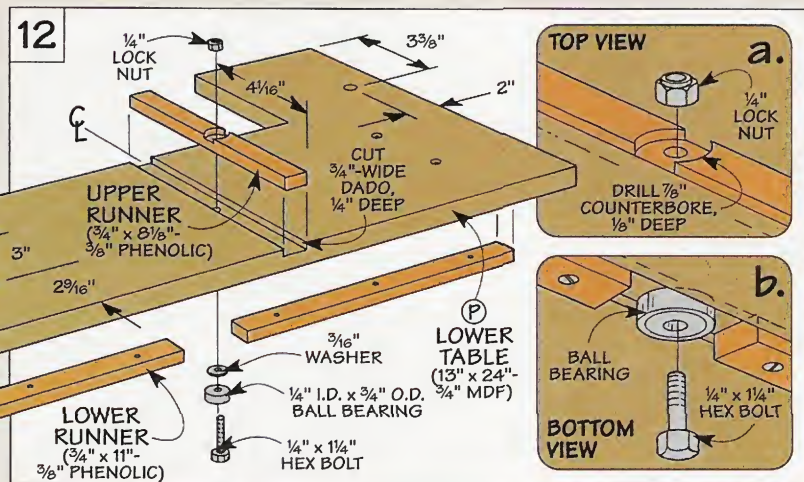

Fig. 12: Assembly diagram of the lower table.
NOTCH. The *lower table (P)* starts out as a piece of $\frac{3}{4}$ " MDF with a wide notch cut in the back edge, see Fig. 12. This notch is sized to provide clearance around the tower as the table moves from side to side.
T-NUTS. With the upper runner in place, I added two T-nuts, one near each of the back corners of the table, see Fig. 12. Later, the T-nuts are used to hold the two tables together.